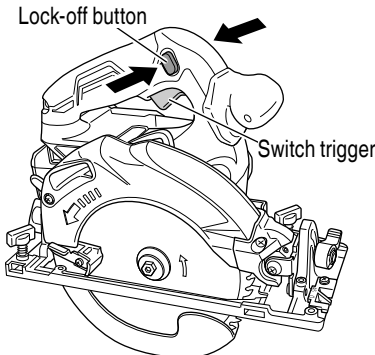

Fig. 20
3. Operation of switch (Fig. 20)
Remaining battery power can be verified by pulling on the switch to make the remaining battery indicator lamp light up red. (Fig. 20)